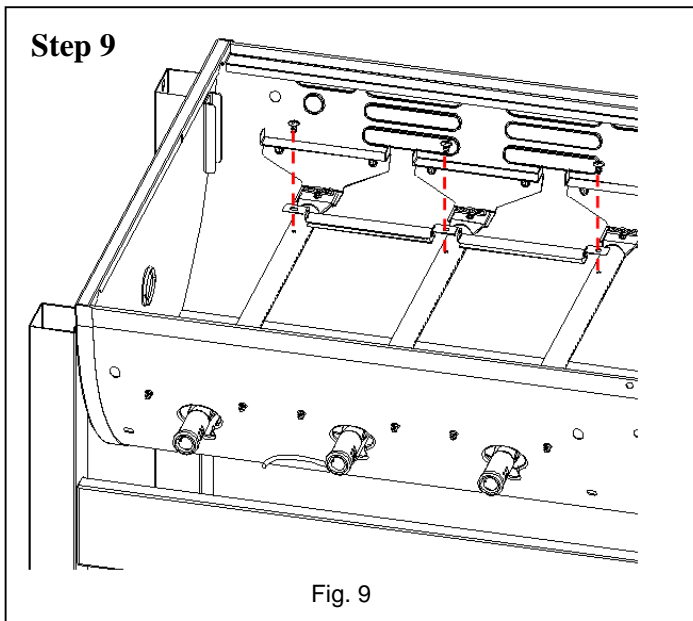

Fig. 9
*Locate:* (2) Cross-over Tubes, (3) M4x8 tapping screws
*Procedure:* Attach (2) Cross-over Tubes to the Burners using (3) M4x8 tapping screws as shown as Fig. 9.